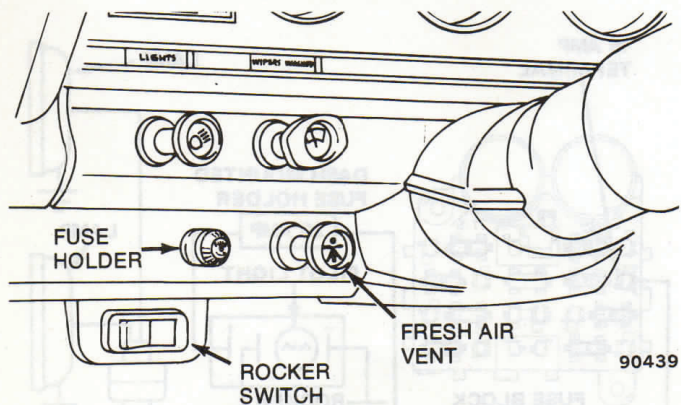

Fig. 11-7 Fuse Holder and Switch Location—Cherokee-Wagoneer-Truck Models
(1) With brackets in place, mount either a fog lamp or off-road lamp on each side of bumper facing forward.
(2) Drill 1/2-inch hole into instrument panel approximately 1-1/2-inches left of left vent knob. Install fuse holder and fuse (fig. 11-7).